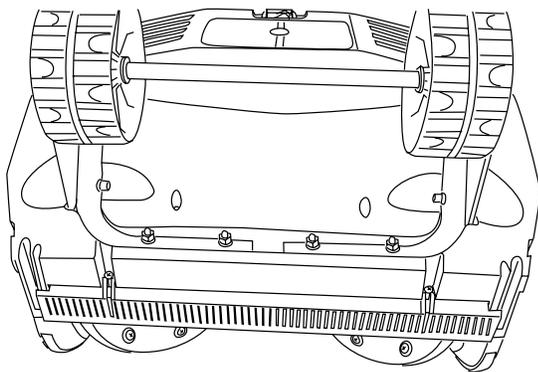

Figure 24
- The scraper bar is located at the base of the snow thrower beneath the rotor housing (Fig. 24).